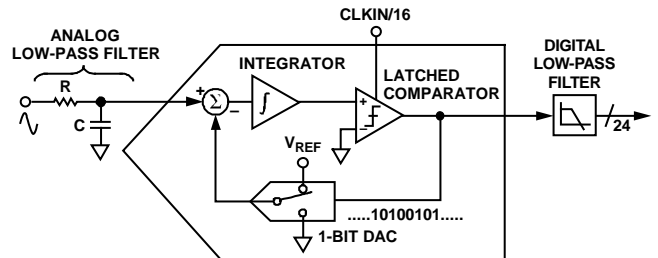

Figure 31. First-Order Σ - Δ ADC
For simplicity, the block diagram in Figure 31 shows a first-order Σ - Δ ADC. The converter is composed of the Σ - Δ modulator and the digital low-pass filter.
Figure 31 shows an analog low-pass filter (RC) on the input to the ADC. This filter is placed outside the ADE7854A/ADE7858A/ADE7868A/ADE7878A; its role is to prevent aliasing. Aliasing is an artifact of all sampled systems, as shown in Figure 33. Aliasing means that frequency components in the input signal to the ADC, which are higher than half the sampling rate of the ADC, appear in the sampled signal at a frequency below half the sampling rate. Frequency components above half the sampling frequency (also known as the Nyquist frequency, that is, 512 kHz) are imaged or folded back down below 512 kHz. This happens with all ADCs regardless of the architecture. In the example shown, only frequencies near the sampling frequency, that is, 1.024 MHz, move into